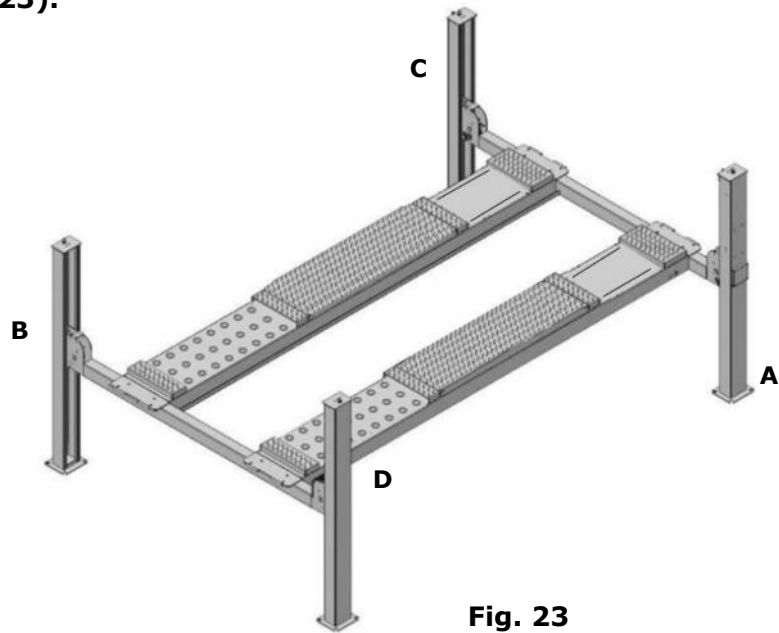

Fig. 23
1. Pass through the cables from the platform to the columns according to the number of the cables (See Fig. 23).